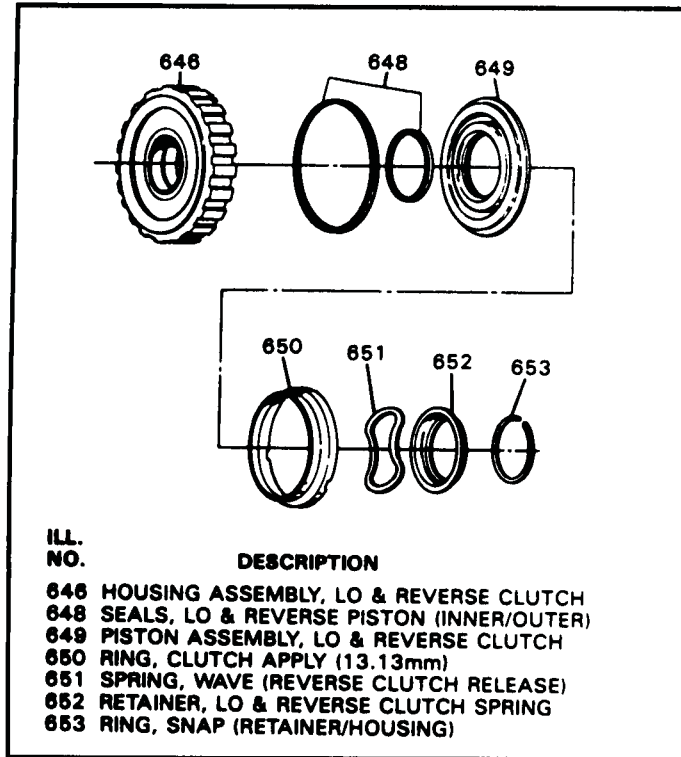

Figure 72
- 0 Refer to Figure 72.
28. Install the waved return spring onto piston, and retainer on top of wave spring (See Figure 72).